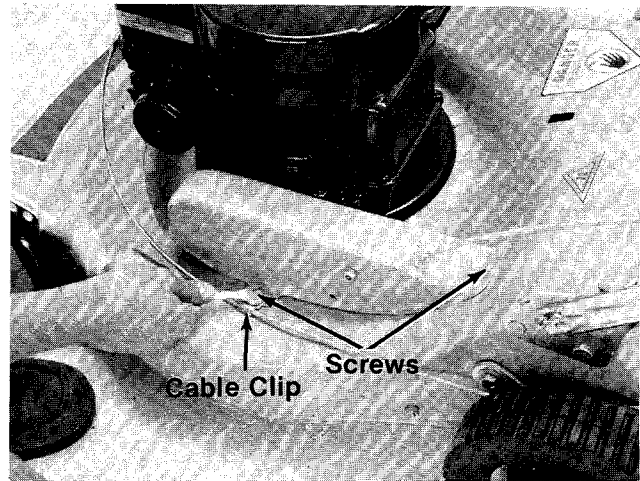

FIGURE 22.
3. Remove the three screws holding the cable clip and belt guard (and idler assembly). See figures 22 and 23.